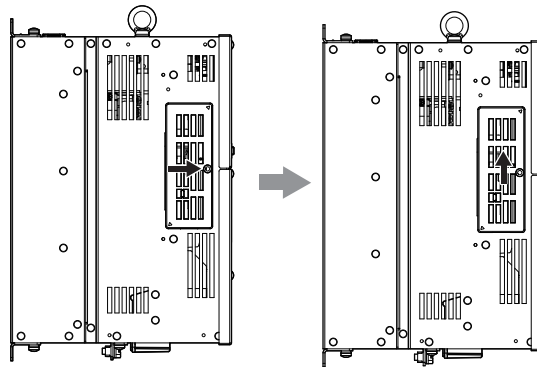

Figure 65 Sliding the CN19 Connector Cover
2. Slide the CN19 connector cover from the drive as shown in Figure 65.